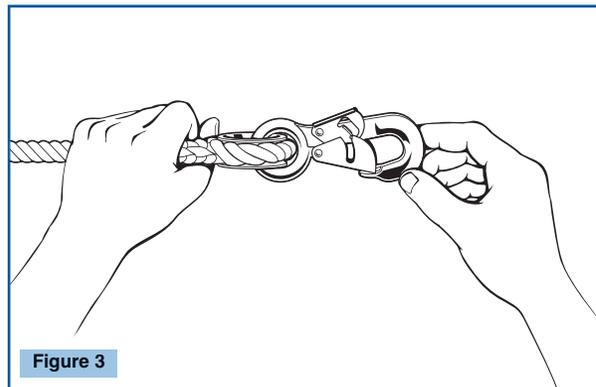

Figure 3
**3. Inspect all snap-hooks, D-rings, and other metal parts.** Hardware must be checked for sharp edges and cracks. Rollers should not be distorted in shape and should roll freely. Check all parts, especially corners and attachment points, for wear and cracks. (See Fig. 3)